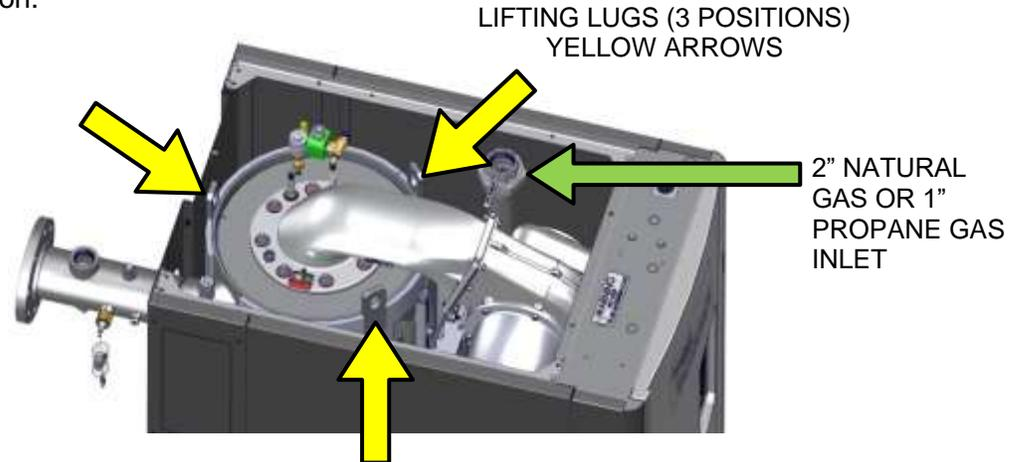

Figure 2-3b: Boiler Lifting Provisions – BMK 1500-3000 Shown
Three lifting lugs are provided at the top of the primary heat exchanger as shown in Figure 2-3b. Remove the front top panel from the unit to provide access to the lifting lugs. Remove the four (4) lag screws securing the unit to the shipping skid. Lift the unit off the shipping skid and position it on the **4 inch to 8 inch (10.2 cm to 20.3 cm)** housekeeping concrete pad (required) in the desired location.